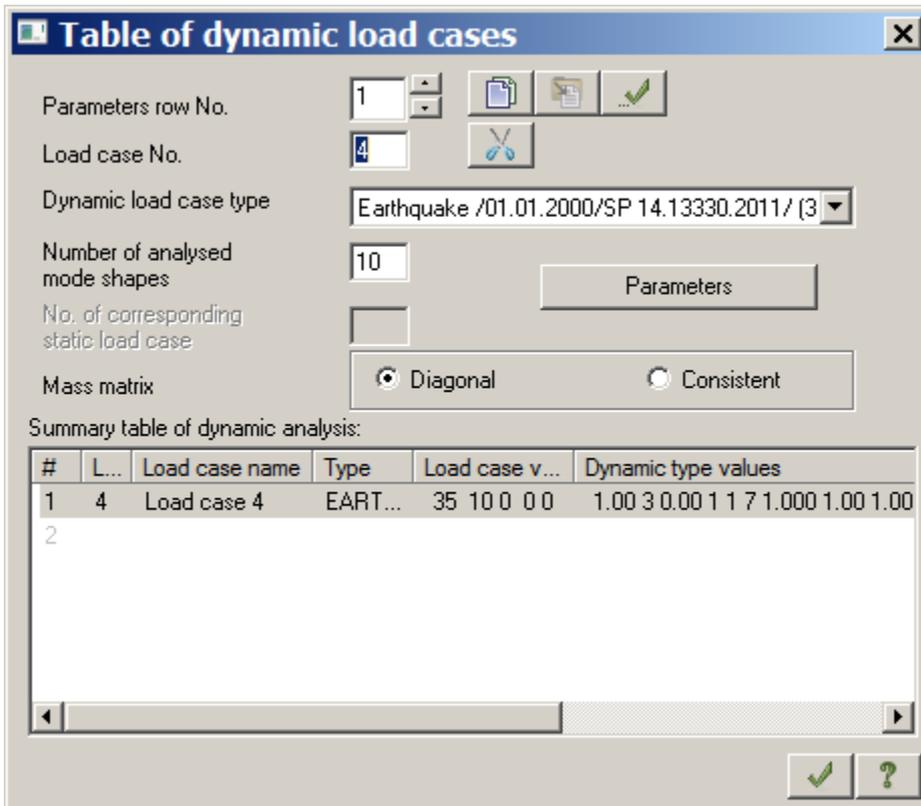

Figure 4.28 Table of dynamic load cases dialog box
- ⇒ In the **Table of dynamic load cases** dialog box (see Fig.4.28), define the following data:
- dynamic load type – **Earthquake /01.01.2000/SP 14.13330.2011/ (35)**;